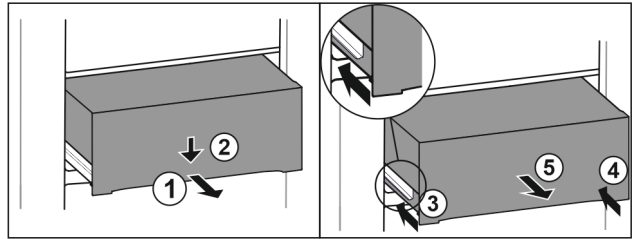

Fig. 216
- ▶ Pull out drawer half-way. Fig. 216 (1)
- ▶ Push the drawer down at the front. Fig. 216 (2)
- ▶ Push the left rail in by about 2 cm. Fig. 216 (3)
- ▶ Push the right rail in by about 2 cm. Fig. 216 (4)
- ▶ Remove drawer to the front. Fig. 216 (5)